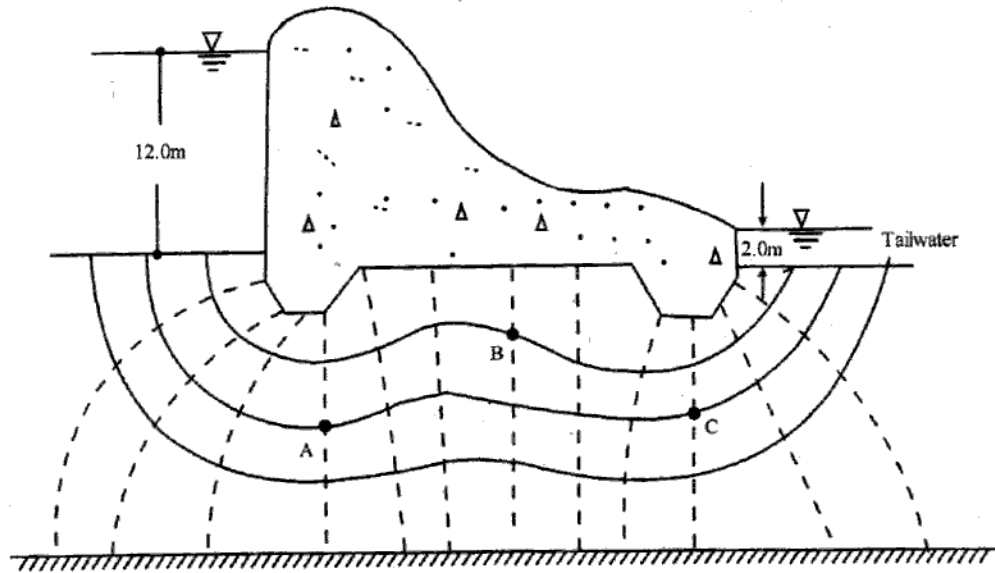

Fig. 1
- b) For a retaining wall shown in figure 1. Write step by step procedure to determine active earth pressure by drawing earth pressure diagram. 8
- b) For the hydraulic structure shown in fig. 1. Determine the seepage loss per day if the length of structure is 350.0 m. Also determine how high water would rise if a piezometer is inserted at A, B and C as shown in figure. 8